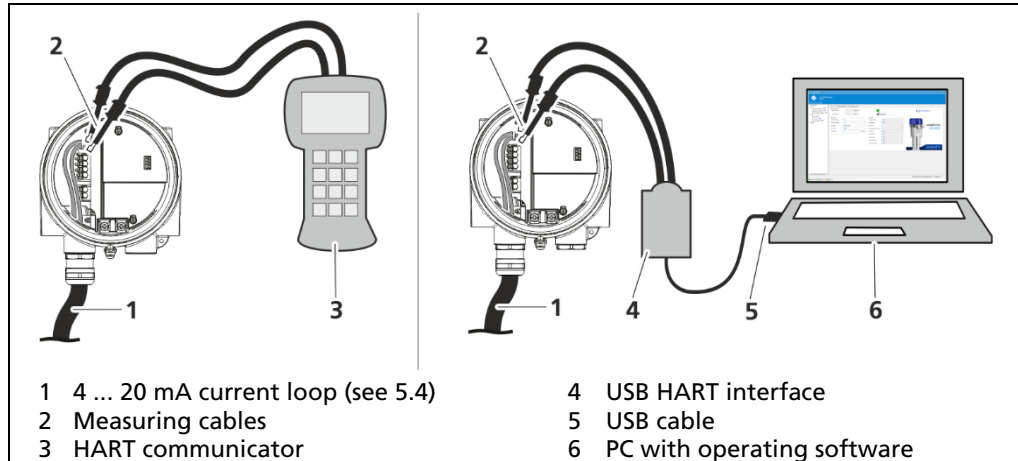

Fig. 14 Connection for operation
1. Loosen the threaded pin (Fig. 14, Pos.1) and remove the cover (Fig. 14, Pos.2) by turning it with both hands.
2. Loosen the gland (Fig. 14, Pos.3) and remove the process interface (Fig. 14, Pos.4) from the connection area.
3. Disconnect the cable (Fig. 14, Pos.5) by possibly removing the connector (Fig. 14, Pos.6, Pos.7).
4. Connect the new process interface to the cable (Fig. 14, Pos.5) and reinsert the connected process interface into the connection area.
5. Tighten the new process interface (Fig. 14, Pos.3).
6. Ensure that the O-ring (Fig. 14, Pos.7) is seated properly around the entire circumference of the detector base.
7. Reattach the cover (Fig. 14, Pos.2). Turn the cover until it is tightly seated on the detector housing.
8. Tighten the threaded pin (Fig. 14, Pos.1).